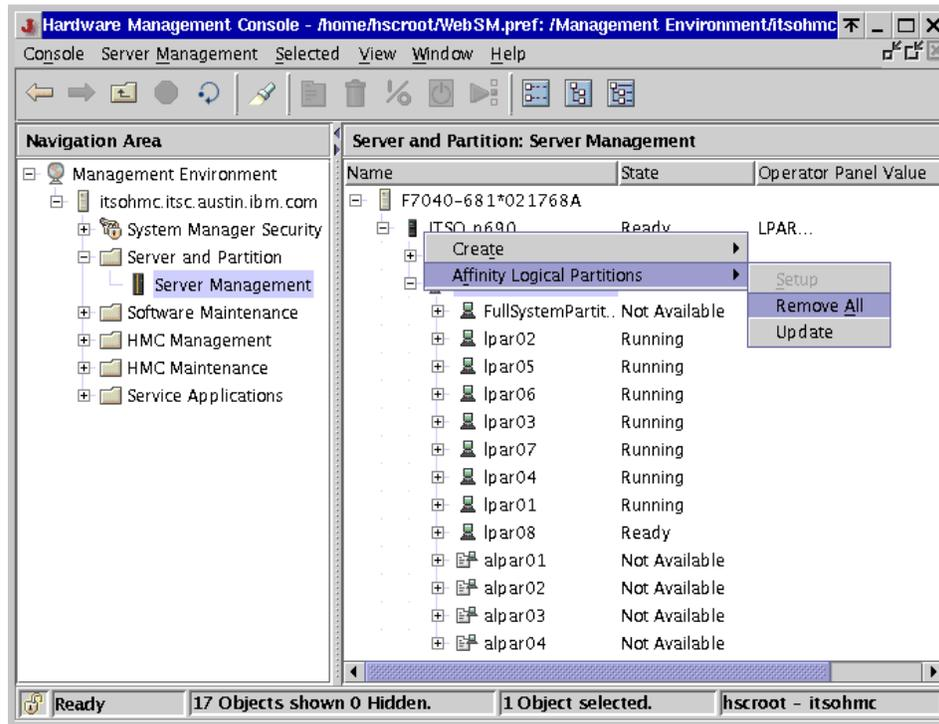

Figure 6-18 Remove all affinity logical partitions
2. Select **Affinity Logical Partitions**, and then **Remove All**, as shown in Figure 6-18.